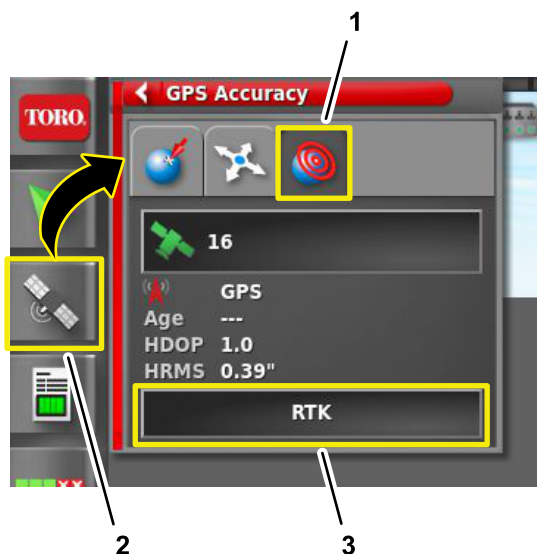

Figure 208
3. On the GeoLink control console, press the GPS INFORMATION icon (Figure 208).